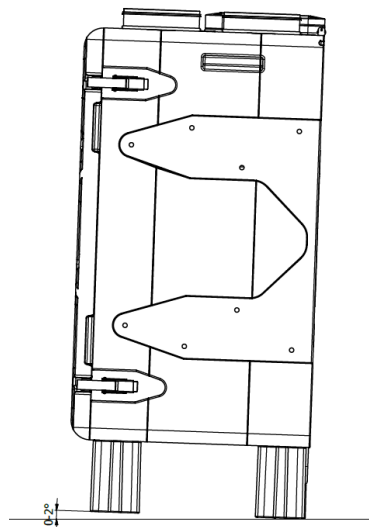

Figure 10 – maximum level deviation
- When siphon is ready and connected to sewage system, please level unit according to figure 10.